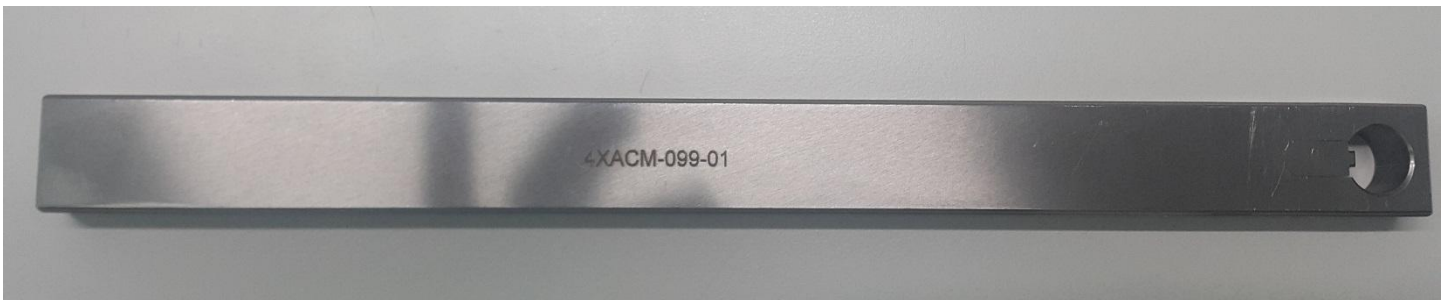
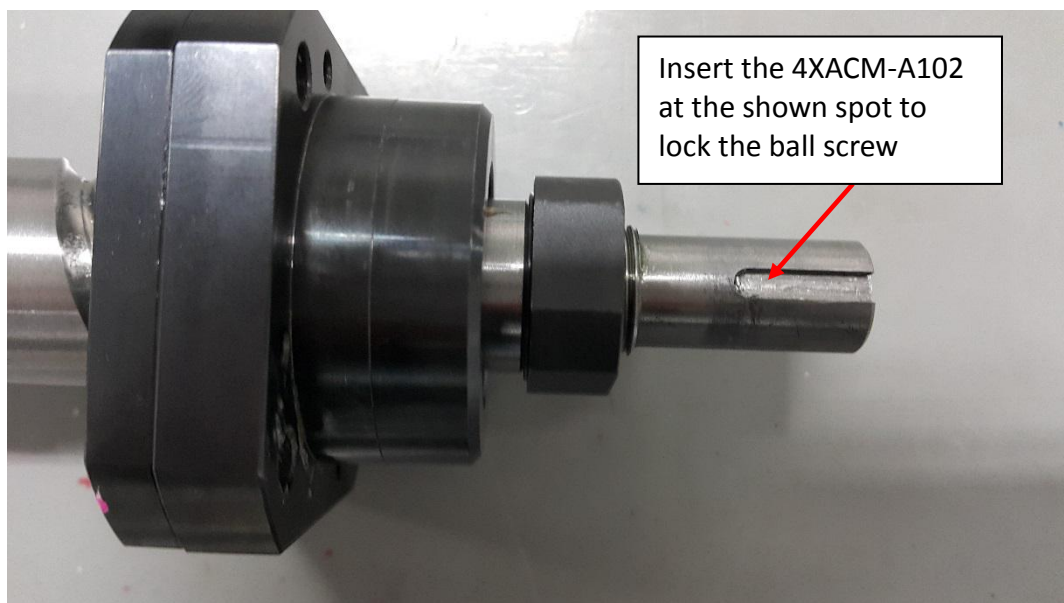

Figure 10 4XACM-A102 Ball Screw Tightening Jig
Figure 11 Ball screw tightening jig locking position
12. Gently insert 4XACM-A102, Ball Screw Tightening Jig (Figure 10) at the end of the ball screw as shown in Figure 11.